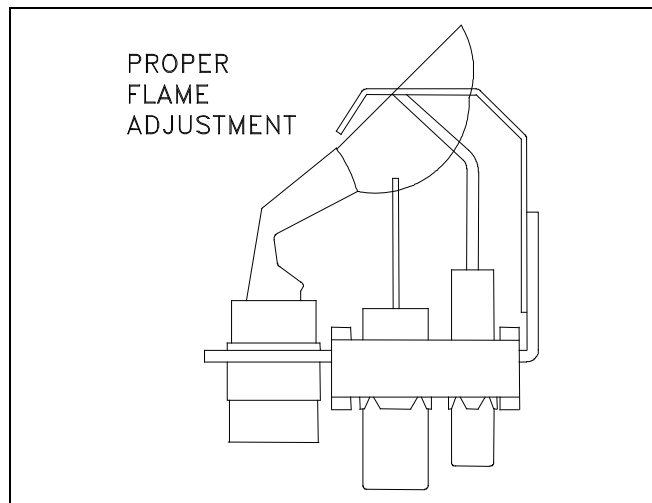

Figure 29. Pilot Flame Adjustment.
3. Pilot flame should cover 1/2 inch of tip of flame sensor as shown in Figure 29.